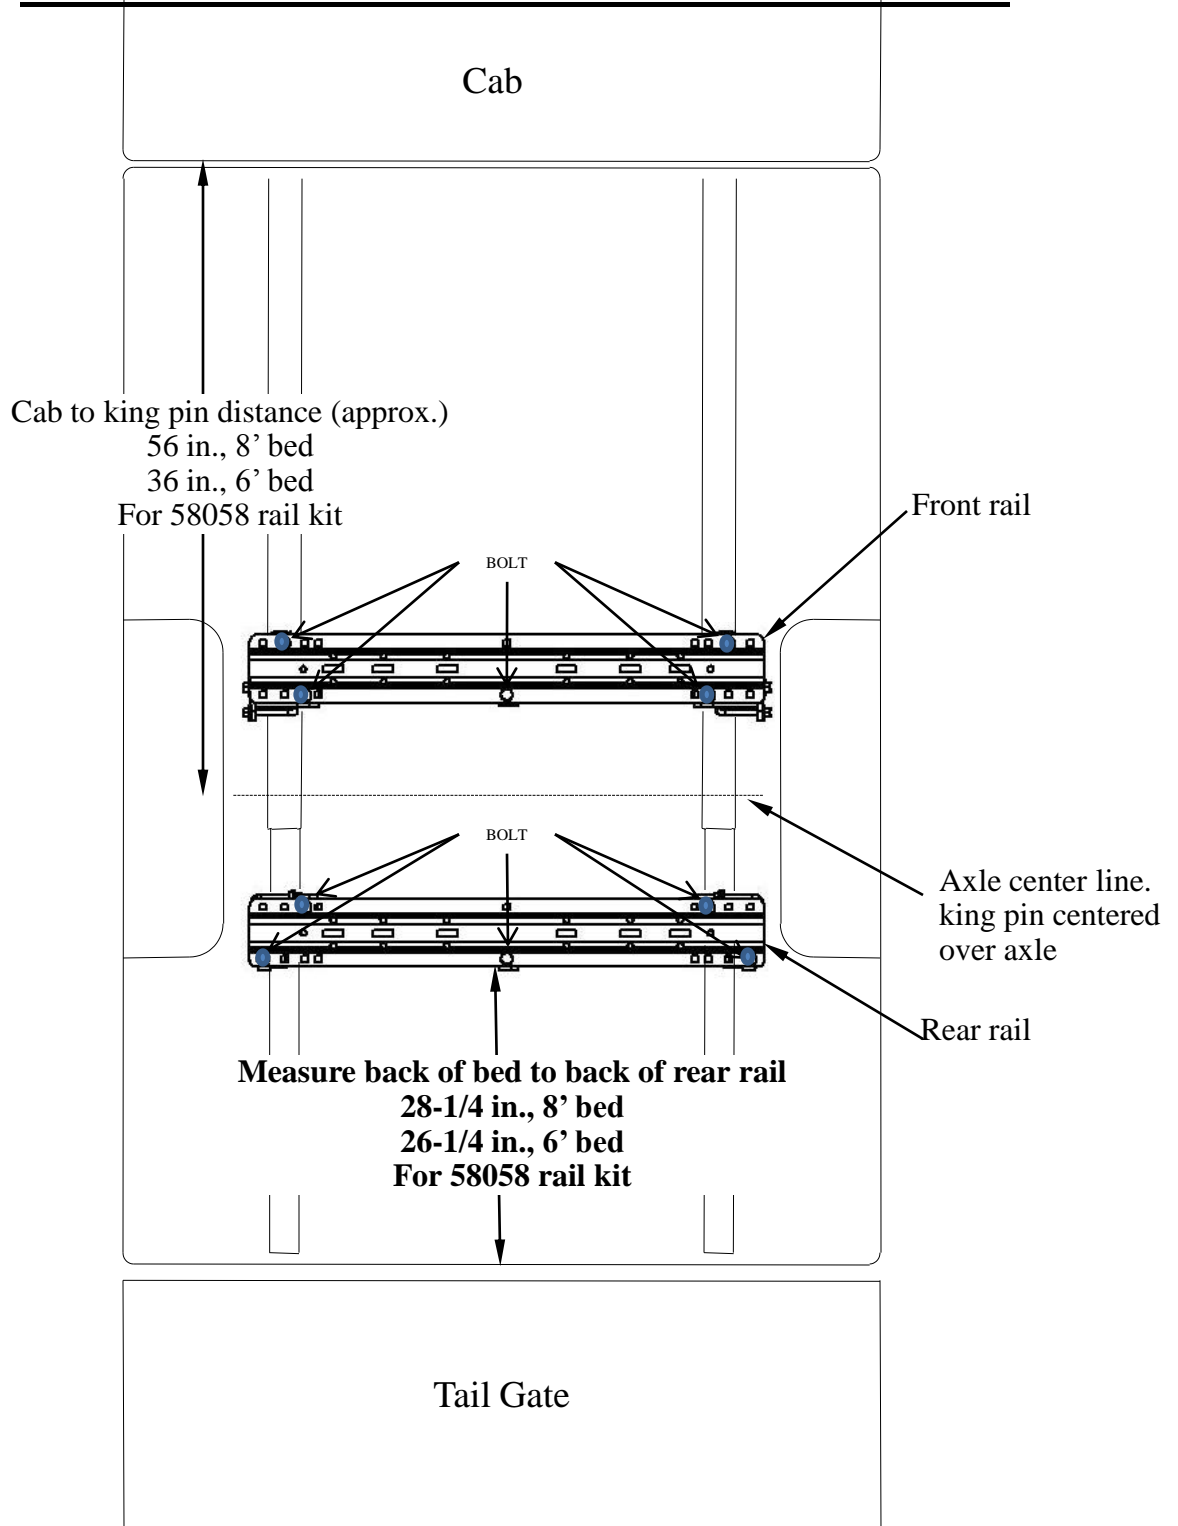

Figure 3
3. Place the rear mounting rail in the bed of the truck. Using your tape measure, center the rail between the weld seams on the length of the truck bed floor and the proper distance from the rear edge of the truck box as illustrated in Figure 3 on page 4.
4. Mark and center punch the holes at bolt placement as per the illustration in Figure 3 (diesel) or 3A (gas). Move the rail out of the way and drill each position with a 1/8 in. drill bit. The front row of holes on the rear rail need to go through the bed support. **WARNING: When drilling holes be aware of potential risks to vehicle components and make appropriate safe guards to protect them from damage.**